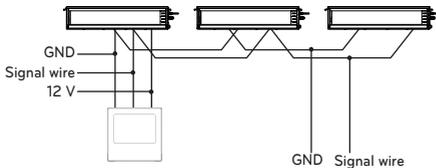

Figure.1
- This remote controller is equipped with LCD. display. For proper display of the remote controller LCD's, the remote controller should be installed properly as shown in Fig.1.
1 When installing more than 2 units of air conditioner to one wired remote controller, please connect as Figure.1.